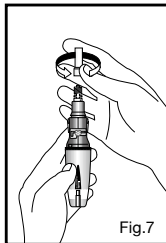

Fig.7
2. Unscrew tip with a counterclockwise motion. (Fig. 7) Pliers may be required to lightly grasp the tip in order to loosen it.